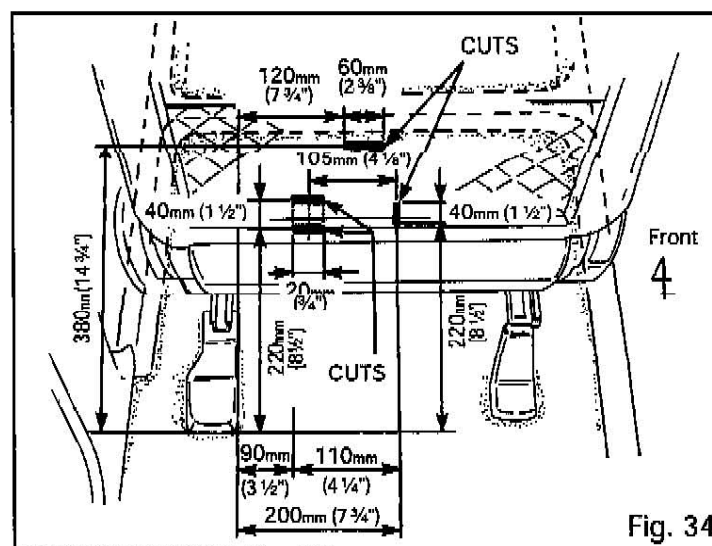

Fig. 34
- (1) Measure, mark, and cut the carpeting beneath the driver's seat as shown. Fig 34